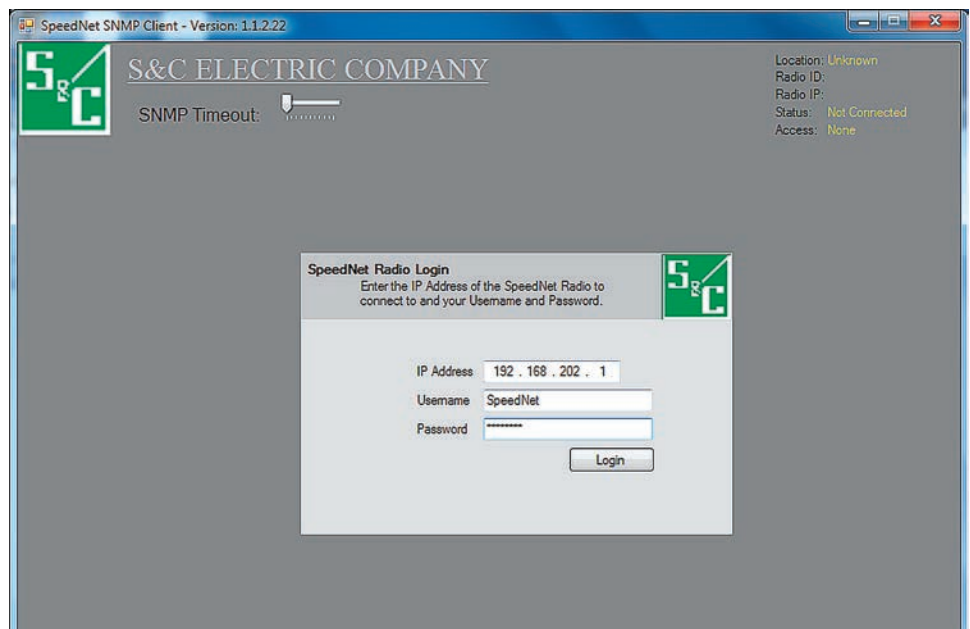

Figure 22. SpeedNet Radio login dialog box.
STEP 4. Open the Client Tool (see Figure 22) and enter: